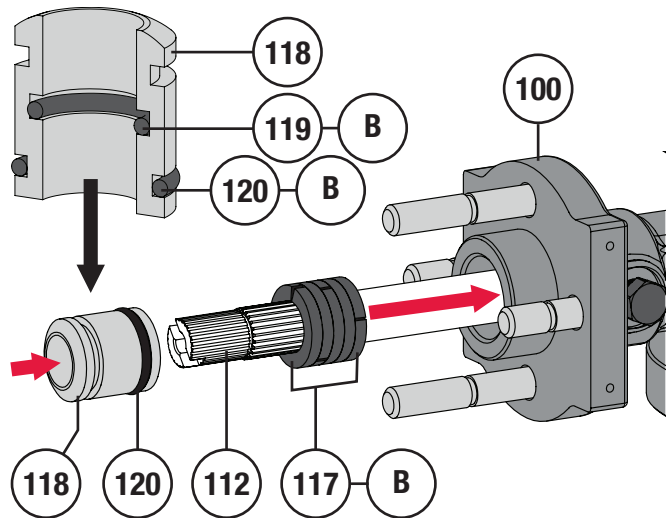

Figure 46 Packing and Packing Follower Installation
- Apply Dow Corning Molykote® 5 (Key B) to the packing follower o-rings (Keys 119 & 120) and install them into the packing follower (Key 118). Install the packing follower assembly as shown in Figure 46.